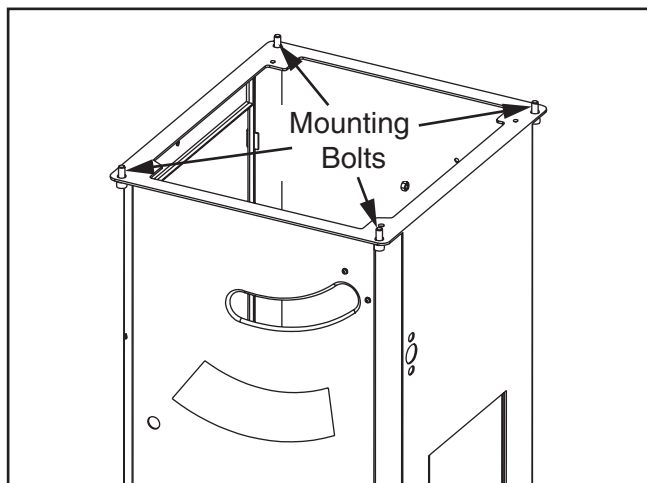

Figure 112. Location of table mounting bolts (table omitted for clarity).
6. Loosen (4) table mounting bolts securing table top to base (see **Figure 112**), and lightly tap table in direction needed to square table to blade.